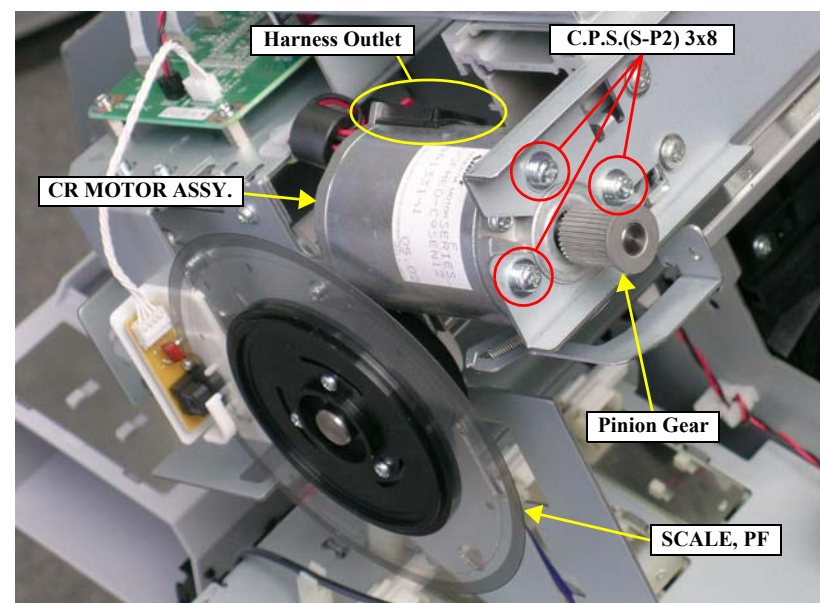

Figure 4-59. Removing the CR MOTOR ASSY.
- Exercise care to avoid deforming or damaging the SCALE, PF. *See Figure 4-59.*
4. Remove the three screws that secure the CR MOTOR ASSY. and remove it. *See Figure 4-59.*
- Reinstall the CR MOTOR ASSY. so that the harness outlet of the assy. faces up. *See Figure 4-59.*